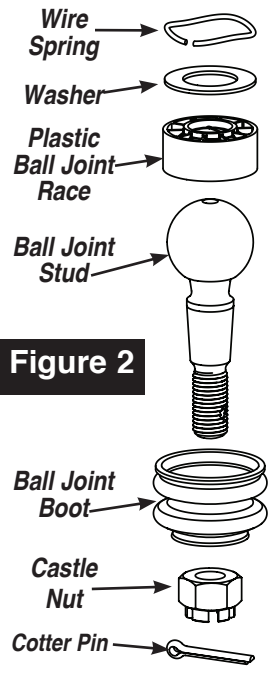

Figure 2
9. Load ball joint internals inside housing in same order they were removed (**Figure 2**). Make sure washer is on top of plastic race and wave spring seats in groove underneath cap. Make sure to keep threads and ball stud taper areas clean!